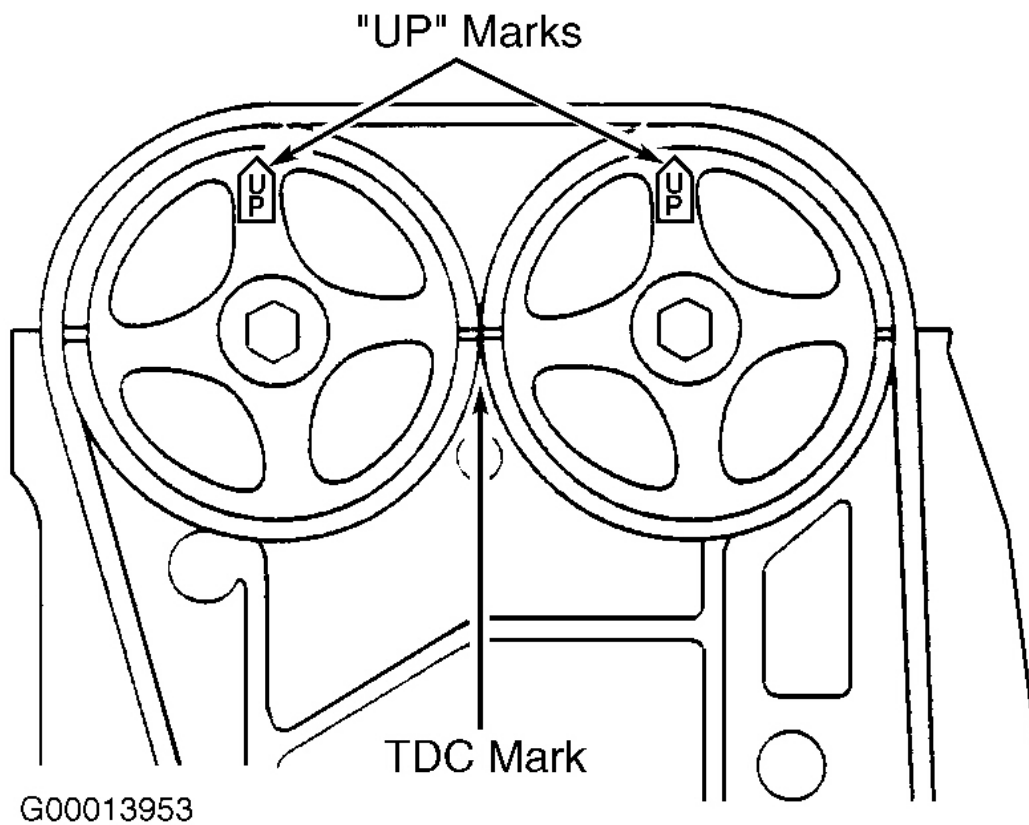
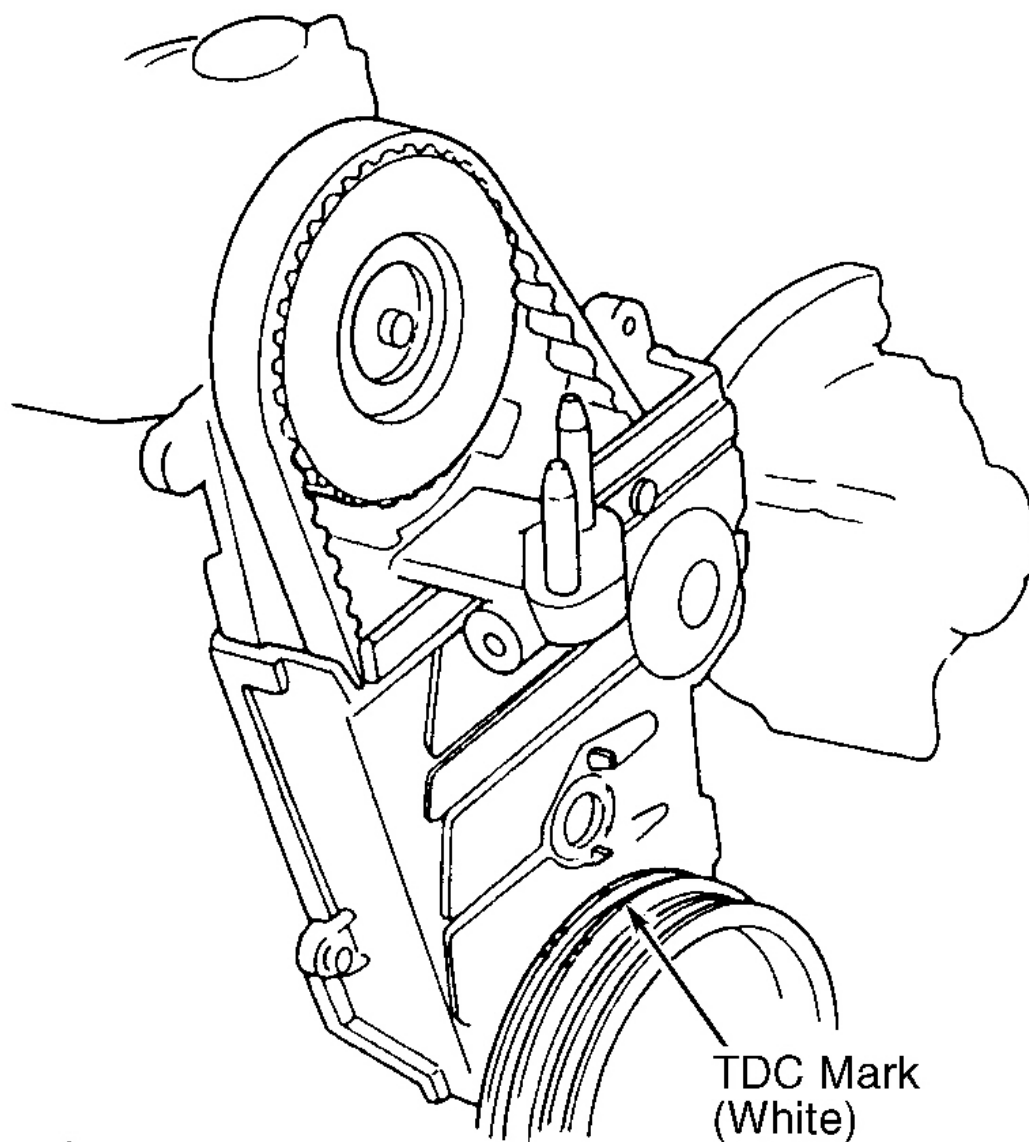
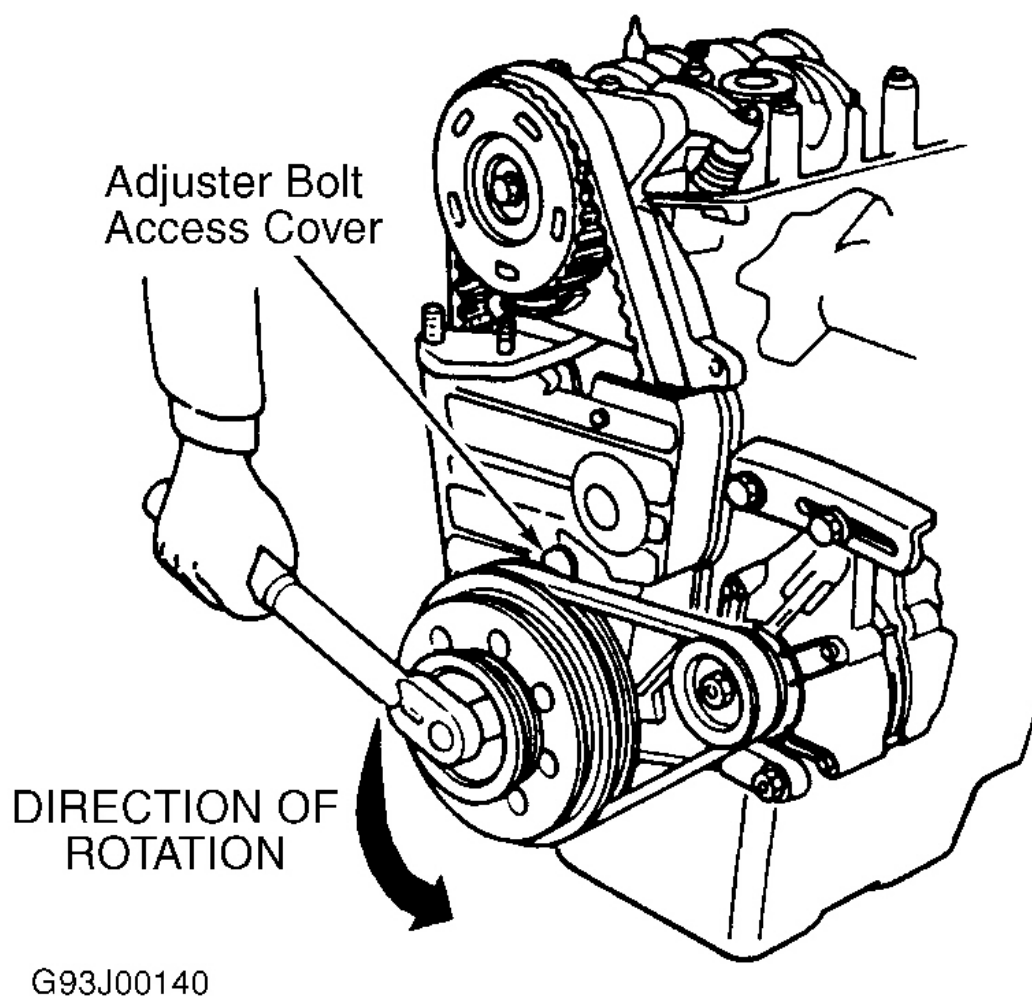

Fig. 2: Positioning Camshaft For Valve Adjustment (DOHC); TDC No. 1 Cylinder Shown
Fig. 3: Positioning Crankshaft At TDC
Fig. 4: Locating Timing Belt Adjuster Bolt
1. Remove valve cover. On SOHC engines, remove upper timing belt cover. Rotate crankshaft counterclockwise until No. 1 piston is at TDC of compression stroke. UP mark on camshaft pulley should be on top, and TDC marks should align with cylinder head upper surface. See **Fig. 1** and **Fig. 2**.
and oil or coolant soaking. Inspect trailing edge of timing belt teeth for damage. Replace timing belt as necessary. See **TIMING BELT** under REMOVAL & INSTALLATION. Rotate crankshaft counterclockwise 5 or 6 revolutions and set No. 1 cylinder at TDC of compression stroke. See **Fig. 1**, **Fig. 2** and **Fig. 3**. Loosen timing belt adjuster bolt 180 degrees. See **Fig. 4**.
1. Inspect timing belt before removing cylinder head. See **TIMING BELT ADJUSTMENT** under ADJUSTMENTS. Ensure No. 1 piston is at Top Dead Center (TDC) of compression stroke. See **Fig. 1** and **Fig. 3**. Disconnect negative battery cable. Remove radiator cap, and drain cooling system. Remove air intake duct and air cleaner housing.
1. Ensure mating surfaces are clean. Ensure cylinder head dowel pins are installed in cylinder block and align with NEW gasket. Set No. 1 piston to TDC of compression stroke. Position camshaft pulley(s) with UP mark facing up. See **Fig. 1**, **Fig. 2** and **Fig. 3**.